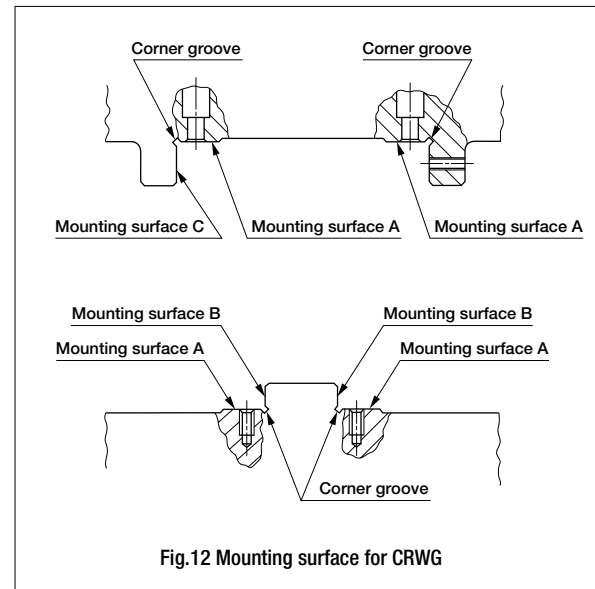

Fig.12 Mounting surface for CRWG
- After closely fitting the ways to B surfaces (See Fig.12), tighten mounting screws uniformly to the prescribed tightening torque.